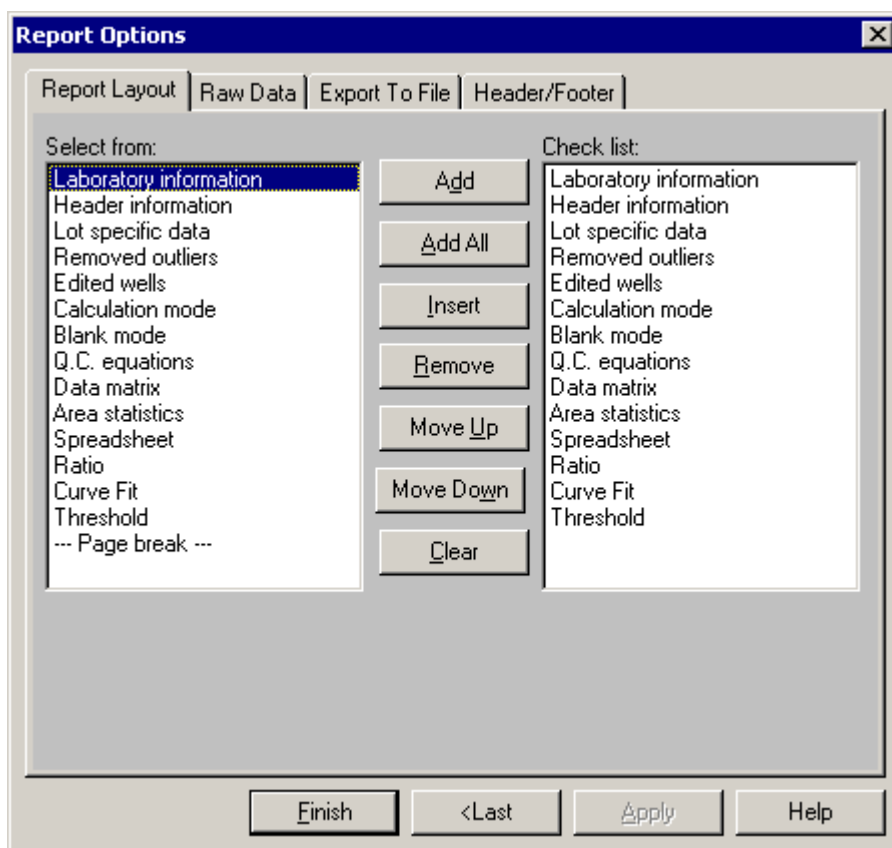

Figure 3-1 The Reader Options Dialog Box – Report Layout Tab
- In some dialog boxes (e.g. the selection of Report Options, Figure 3-1), a list of all options is present in a field (the *Check list* field). The operator can select the desired items via the **Add** button or **Add All** button to place them in a list (the *Check list* field). In the same vein, items can be deselected by the **Remove** or **Clear** button.
- 7 Some dialog boxes include tabs (e.g. Figure 3-1) and edits can be made on various tabs. Any change to the parameters will not be entered until the **OK** button is pressed to close the dialog box (simply moving to another tab will not enter the data).